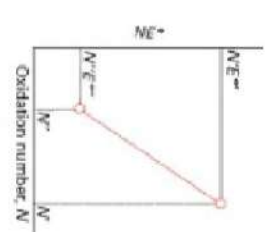

Fig. 2
② The slope of the line joining any two points in a Frost diagram is equal to the standard potential of the couple formed by the two species that the point represents. (Fig. 2)